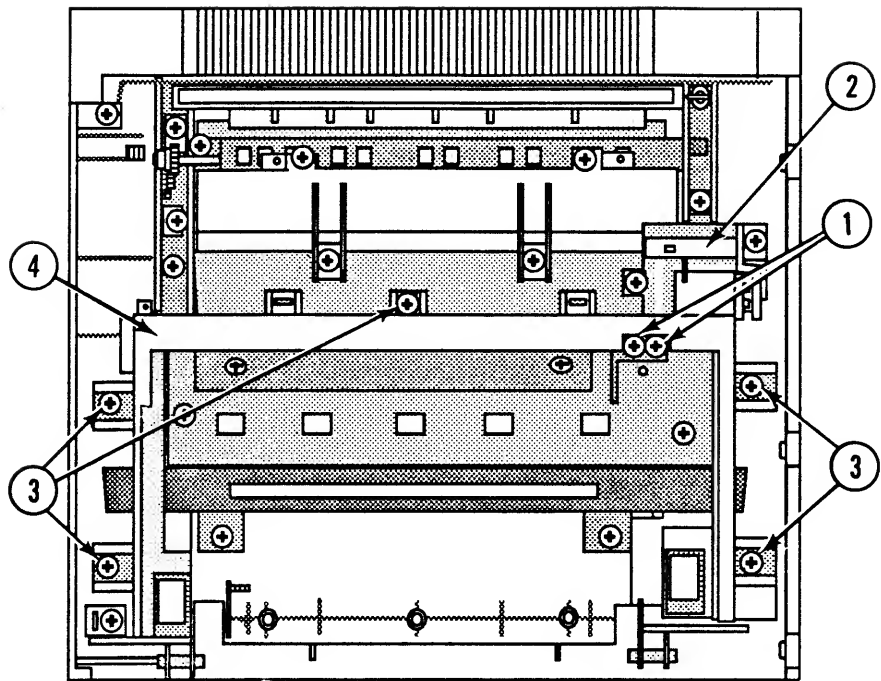

FIGURE 74
3. Remove the two Phillips screws (Figure 74, #1) that secure the preconditioning exposure assembly to the preconditioning exposure contact arm (Figure 74, #2).
4. Remove the five Phillips screws (Figure 74, #3) that secure the cartridge guide (Figure 74, #4) to the top cover. Remove the cartridge guide.